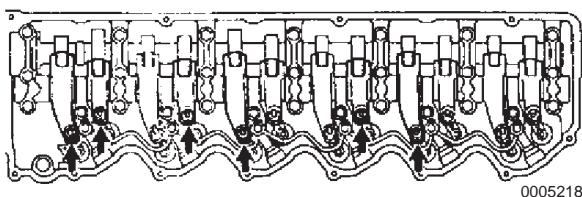

Figure 5-219
4. Check only the valves indicated by arrows in Figure 5-219.